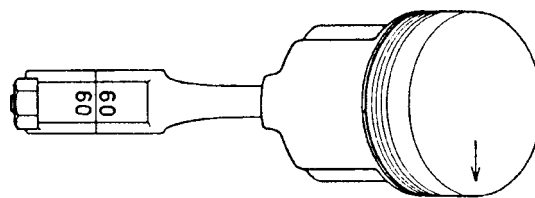

Fig. 53. Number marking on connecting rod and cap
3. Check that the marking on the piston top, alt. in the piston and on the connecting rod, correspond with Fig. 53.
**Note:** The main bearing cap should be fitted so that the number/colour marking on the crankshaft and cap correspond (Fig. 53).